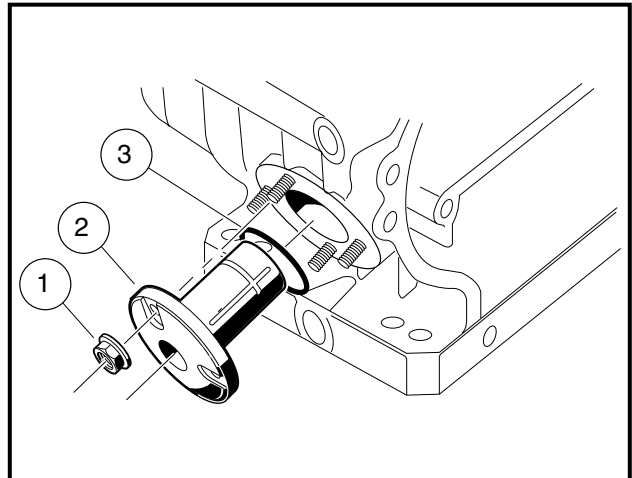

Figure 2-67 Counterbalance Guide Shaft and O-Ring
1. Remove the four nuts (1) and pull out the counterbalance guide shaft (2) and the O-Ring (3) (Figure 2-67, Page 2-31).